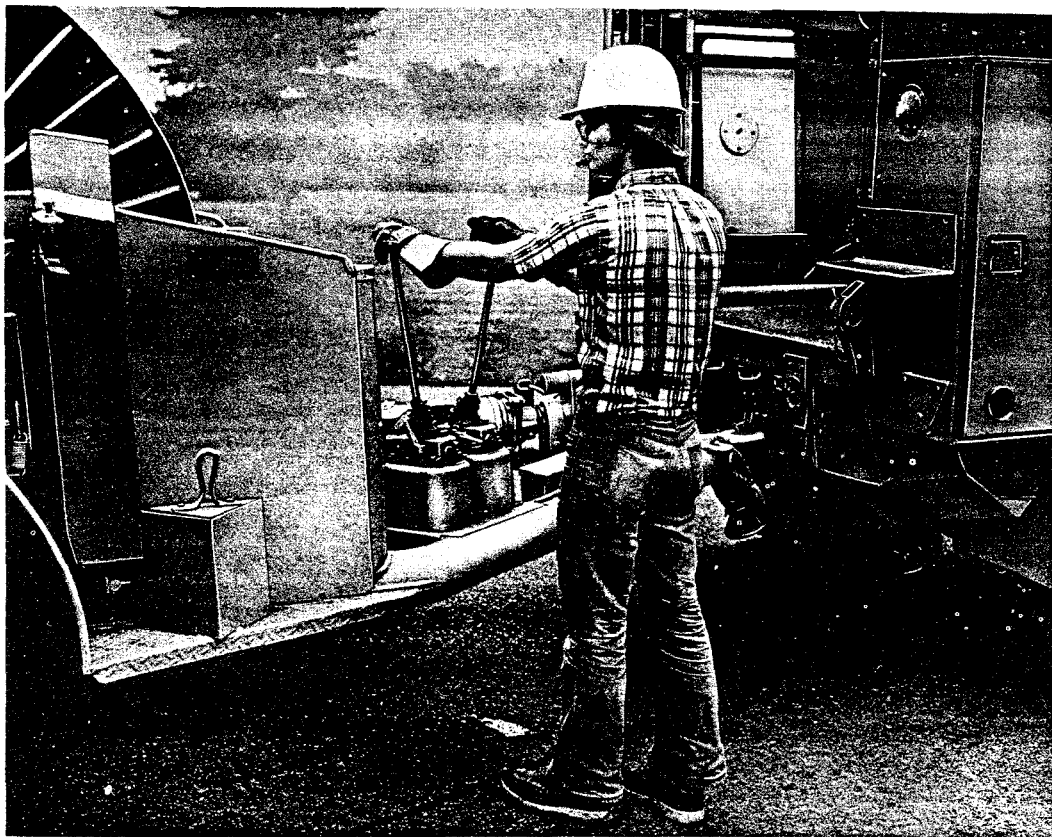
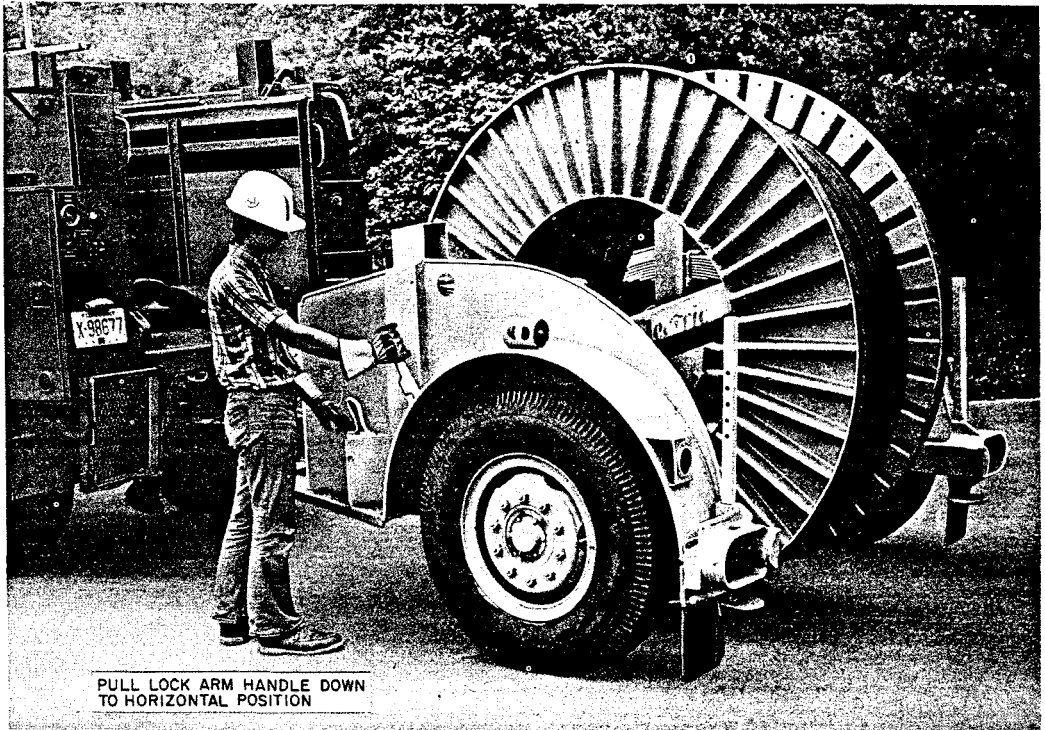
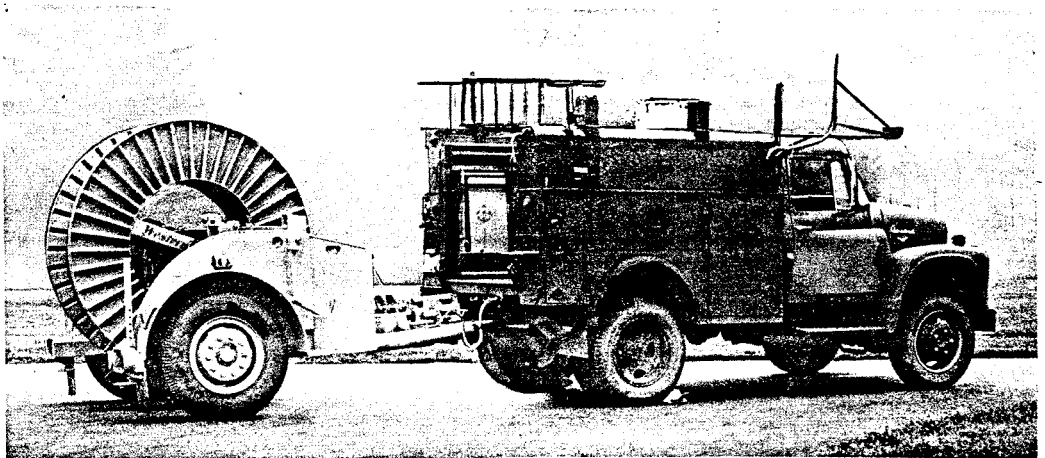

Fig. 16—Operating Hand Pumps to Raise Spindle Bar Carrying Brackets
Fig. 17—Positioning Spring Lock Arm Handle
Fig. 18—TRUCO Trailer Coupled to Towing Vehicle
**6.05** With the spindle bar seated in the spindle bar carrying bracket, engage the lock bar under the safety latch, and replace and lock the pin (both ends of the spindle bar) as shown in Fig. 15. Operate both hand pumps to raise the spindle bar carrying brackets to the highest position (Fig. 16). Move the spring lock arm handles (both sides of trailer) to their horizontal position (Fig. 17) to engage the spring lock arms under the spring saddles. Check through the peep holes in the sides of the trailer, if they are provided. Insert the pins in the bracket to lock the lock arm handle in position (See note). Open the control valves on both hand pumps to allow the reel to settle so the weight of the reel will be carried by the spring support arms. Do not transport a reel with the load on the hydraulic system. Road shock may cause damage. The loaded trailer coupled to the truck is shown in Fig. 18.